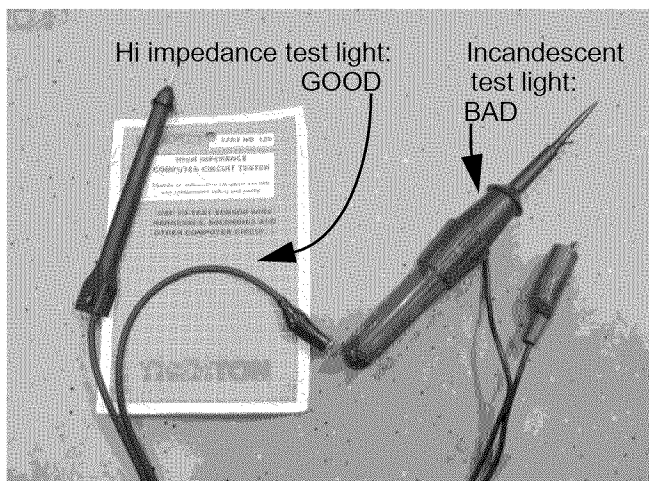

Figure 7.32
- The most basic test lights simply use the current being checked to light an incandescent lamp. These should not be used on any equipment that has or may have solid-state circuitry. The power necessary to light the bulb is more than many solid-state circuits were designed to handle. Components will be destroyed in the process of testing them. See Figure 7.32.